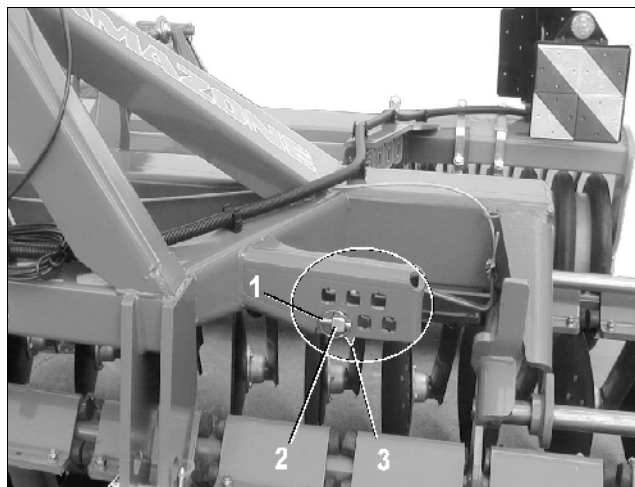
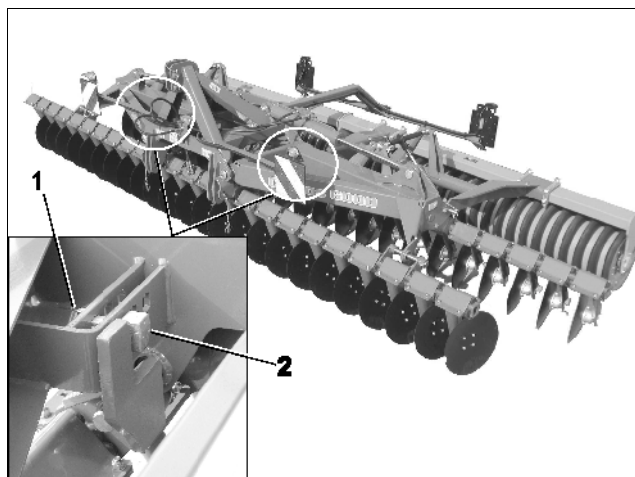

Fig. 17
Fig. 18
Catros 3001, 4001: Fig. 17
Catros 4001-2 to 6001-2: Fig. 18
- Slacken clip pin (Fig. 17/3 and Fig. 18/1).
- Insert the eccentric pin (Fig. 17/2 and Fig. 18/2) in desired position.
A priority setting hole is marked with an arrow (Fig. 17/3).